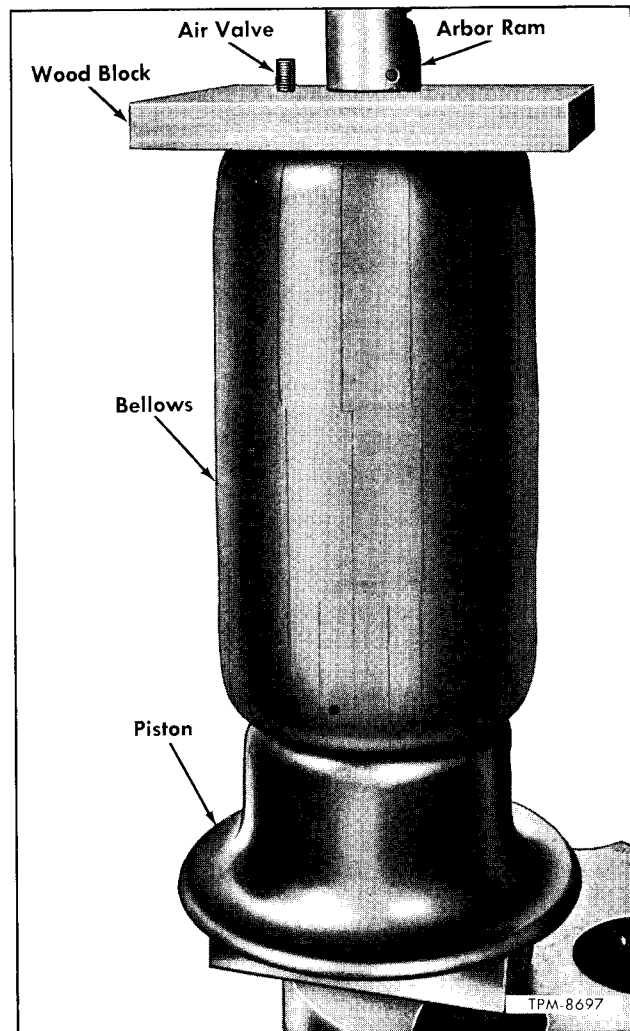

Figure 20—Forming Bellows Loop over Piston Using Arbor Press
7. Install bellows assembly in arbor press (fig. 20) with two studs in lower retainer astride a block so that assembly will rest against retainer and piston.
8. Install locally made block over top of bellows assembly with upper retainer studs through holes in block (fig. 20).